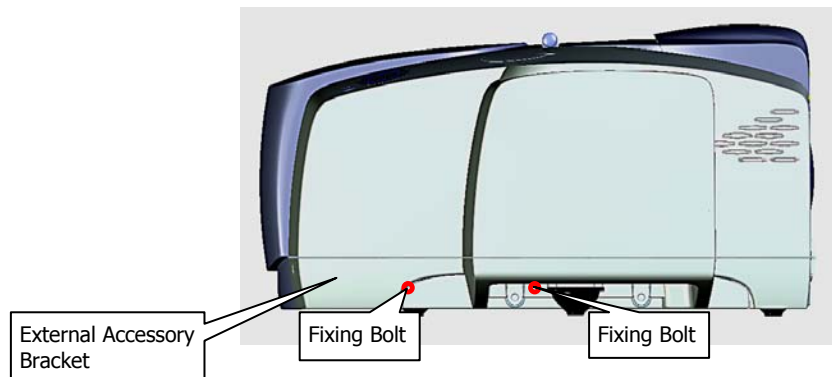

Figure 20 Location of External Accessory Fixing Bolts
3. Use the 6 mm hex key supplied to carefully undo the two 100 mm M8 socket-headed bolts that attach the accessory to the external accessory bracket. These bolts are accessible from under the baseplate of the accessory, looking from the right of accessory (Figure 20). Each bolt is fitted with a spacer (between the accessory baseplate and the accessory bracket), a plain washer and a spring washer.